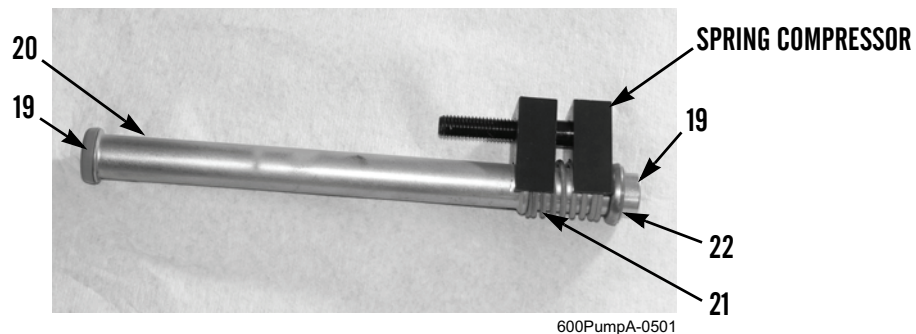

Figure 13. Assembling Cover Tube.
4. Install washer (Figure 13, Item 19) on non-spring end of cover tube (Figure 13, Item 20).
5. Slide compression spring (Figure 13, Item 21) on cover tube (Figure 13, Item 20) and apply tension with spring compressor.
6. Install retainer (Figure 13, Item 22) and other washer (Figure 13, Item 19) on spring end of cover tube (Figure 13, Item 20).